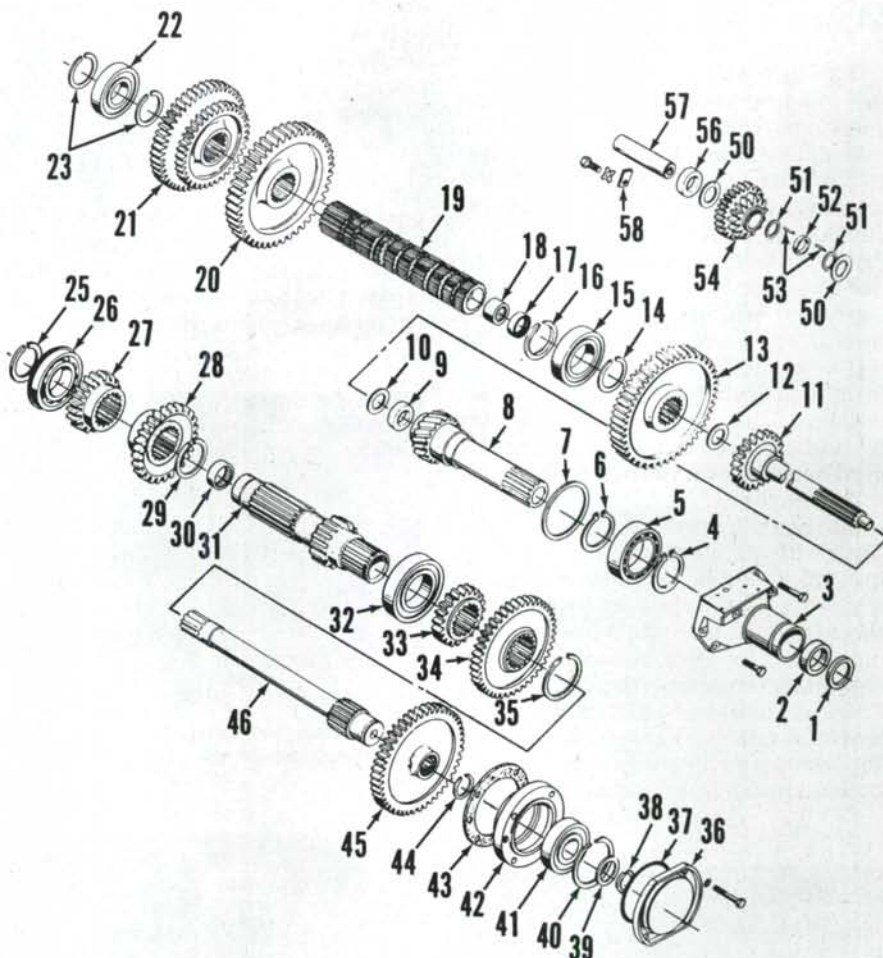

Fig. 187—Exploded view of 8-speed transmission shafts, gears and related components.
To disassemble, remove snap ring (6—Fig. 187) from rear of retainer, then push pto input shaft (8) with bearing rearward from housing. Remove oil seals (1 and 9) and needle bearing (2) if necessary.
**163.** To remove mainshaft (31—Fig. 187), first remove transmission as outlined in paragraph 157. Remove shifter rails and forks as outlined in paragraph 159, remove planetary unit as outlined in paragraph 160 and remove main input shaft as outlined in paragraph 162. Pry or drive mainshaft rearward until front and rear bearings are free of housing bores. Withdraw sliding gear (13) from front of shaft. Remove snap ring (14), bearing (15) and snap ring (16) from front of mainshaft, then slide the shaft rearward from housing and lift out gears (20 and 21). Note that rear bearing (22) must be removed forward off mainshaft.
**164.** To remove the pto lower shaft (46—Fig. 187), the transmission must first be removed as outlined in paragraph 157. The shift rails and forks, pto input shaft and transmission input shaft must be removed as outlined in previous paragraphs in order to remove pto drive gear (45).
When assembling, make sure that snap ring (44—Fig. 187) is installed in inner bore of drive gear (45) and hub of gear faces forward. Use a suitable forcing screw and crossbar as shown in Fig. 192 to pull pto shaft into front bearing. Apply a nonhardening sealer to threads of retainer cap screws, install cover
**165.** To remove the transmission countershaft (31—Fig. 187) and related gears, first remove transmission as outlined in paragraph 157. Remove mainshaft as outlined in paragraph 163 and remove pto lower shaft as outlined in paragraph 164. Remove snap rings (25 and 35) from rear and front of countershaft, then bump the shaft forward until free from rear bearing. Unseat snap ring (29) from groove in center of shaft and move it forward onto unsplined section of shaft. Slide shaft rearward and remove gears (34 and 33) from front of shaft. Slide shaft forward through front of housing and remove rear gears (27 and 28).
**166.** The reverse idler shaft (57—Fig. 187) and gear (54) can be removed from